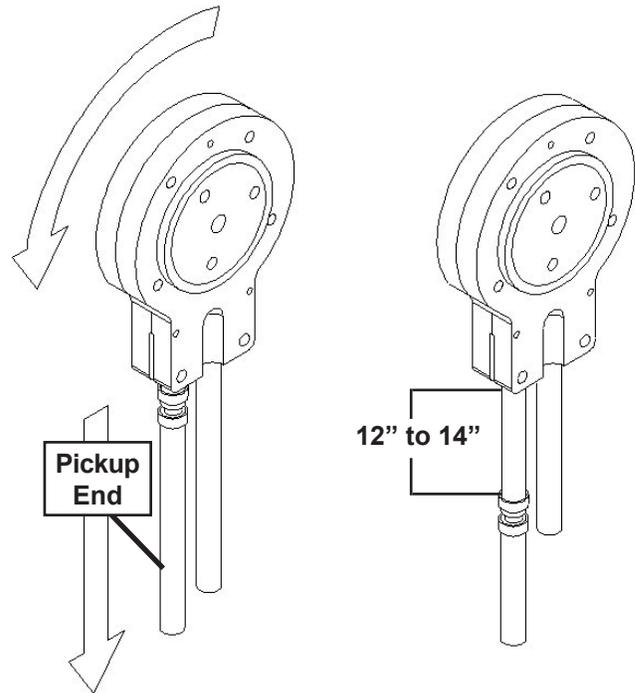

Figure 2-3 Pump Hose Reposition
- C. Grasp the pickup hose end of the mix pump hose with one hand and turn the pump on. Pull down on the pickup hose end until 12 to 14 inches of tubing has fed through the pump then turn the pump off (Fig. 2-3).